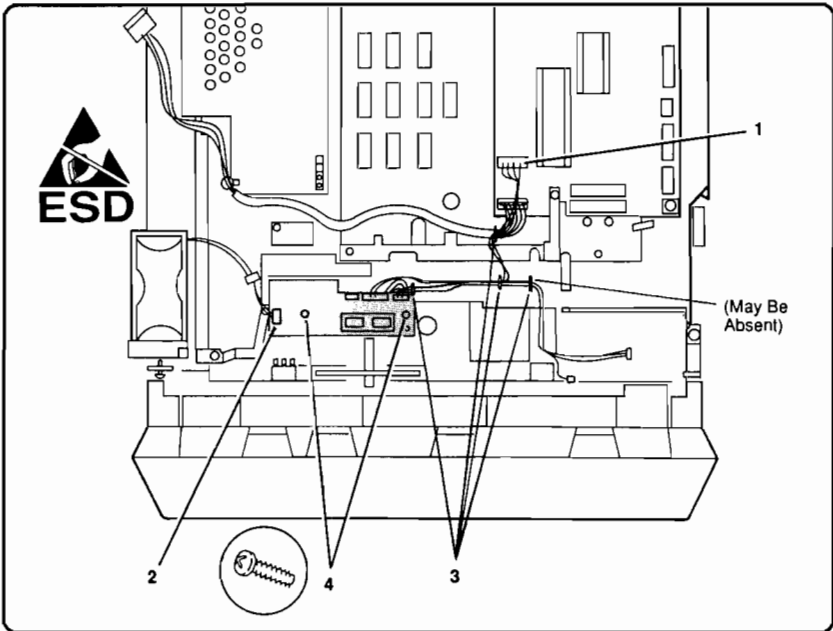

Figure 6-33. Density Adjustment PCA/Cable Assembly Removal
5. Unplug connector J213 from the DC Controller PCA (see Figure 6-33, callout 1).
6. Unplug the Fan Cable connector J701 from the Density Adjustment PCA (see Figure 6-33, callout 2).
7. Unclamp the cable clamps securing the cable assembly using a small flat-head screwdriver (see Figure 6-33, callout 3).
8. Remove the screws (2) securing the Density Adjustment PCA (see Figure 6-33, callout 4).